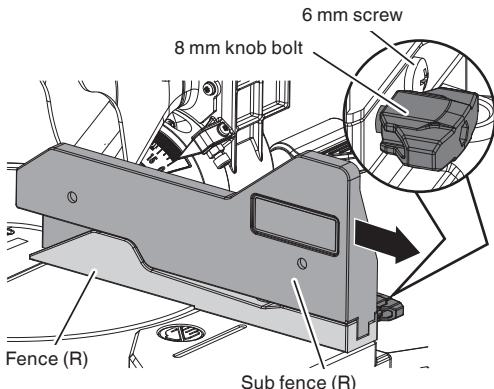

Fig. 12-a
5. Confirmation for use of sub fence (R) (Fig. 12-a)
**⚠ WARNING:** When right bevel angle cutting, loosen the 8 mm knob bolt, then slide the sub fence (R) outward. Failure to do so may result in the main body or saw blade coming into contact with the sub fence (R) and causing injury.